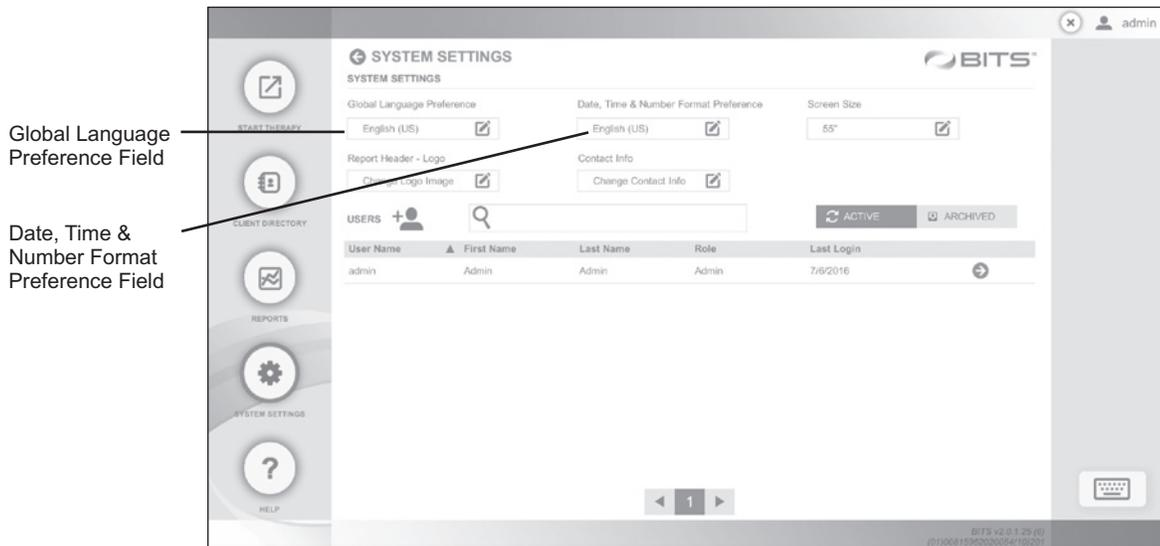

Figure 30: Change the Language Settings from the System Settings Screen
2. Click on the Global Language Preference field. See Figure 30.
4. Click on the Date, Time & Number Format Preference field. See Figure 30.